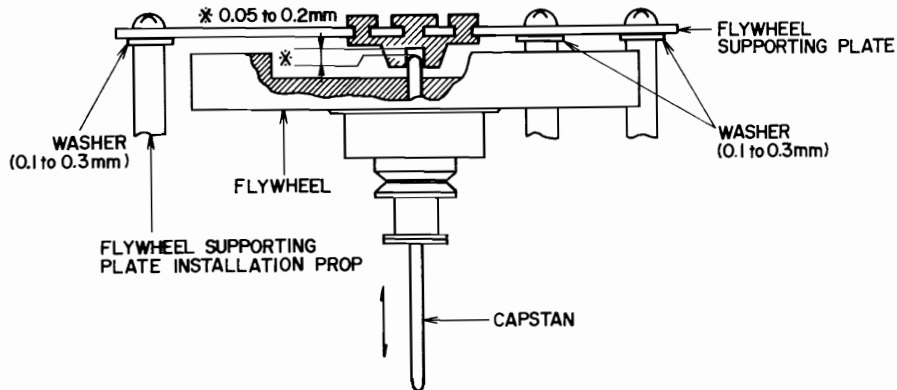

Fig. 9 Flywheel Thrust Loose Play Adjustment
- 1) Prior to Serial No. 20317-0500 (Refer to Fig. 9)